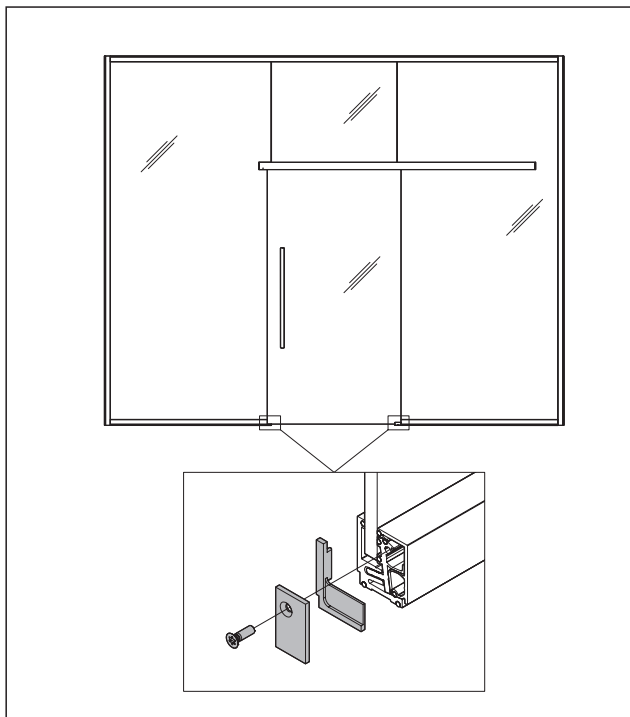

Fig. 12 Mounting end covers in the passage area
1. Mount the end covers to the clamping pieces on the right and left in the passage area (Fig. 12).